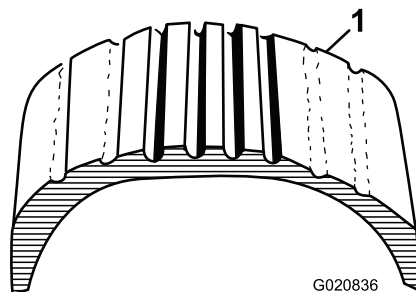
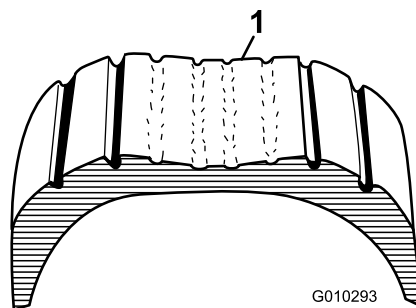

Figure 31
Figure 32
1. Visually inspect the tires for damage and wear (Figure 31 and Figure 32).